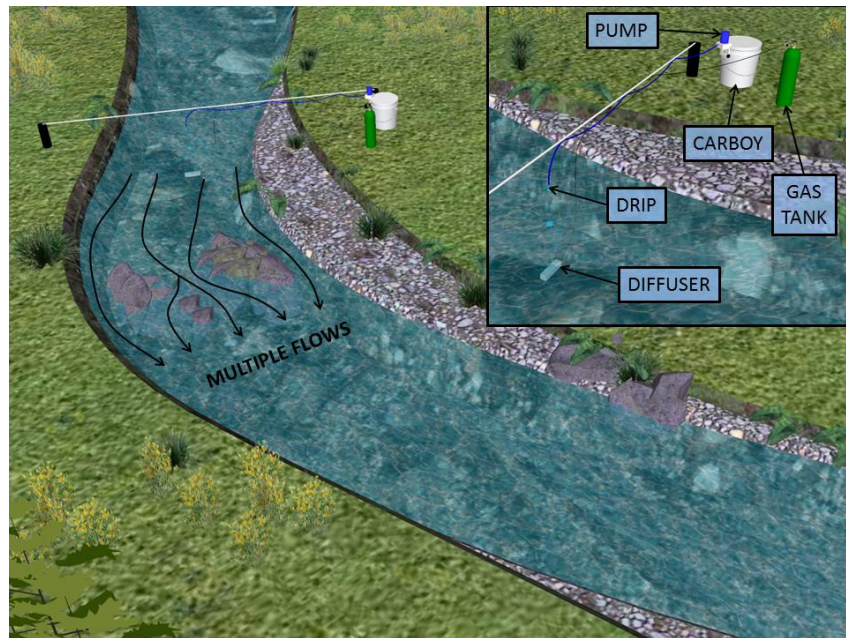

Figure 5. Field setup of the injection site with conservative tracer and inert gas
2. Set up the bucket/carboy, tubing, battery, and pump on a level surface at the injection site (Figure 5). If a level surface on the bank is not adequate, place pump set-up on a bridge or plank laid across the stream.
5. Pump Set-up: The end of the tubing should be placed a few inches above the water surface. **DO NOT** put the tubing in the stream because it will change the pump rate. Attach the tubing to something stable, such as a piece of rebar pounded into the streambed or a tree above the stream. Make sure to INJECT (i.e., Drip) INTO THE THALWEG so the solution will mix as quickly as possible with the stream water (Figure 5).
- 4) Make sure diffuser remains underwater and is at the same location in the stream as the conservative tracer injection (Figure 5).